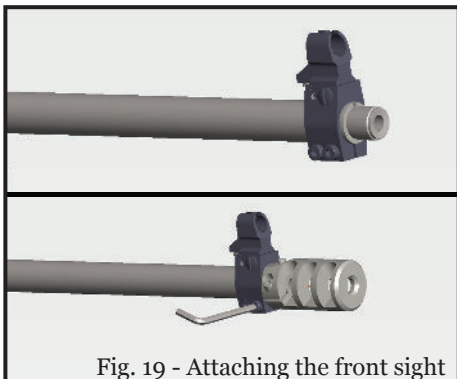

Fig. 19 - Attaching the front sight
2. Attach the front sight by sliding it over the muzzle so that the guiding pin fits on the groove on the barrel. (Fig. 19)